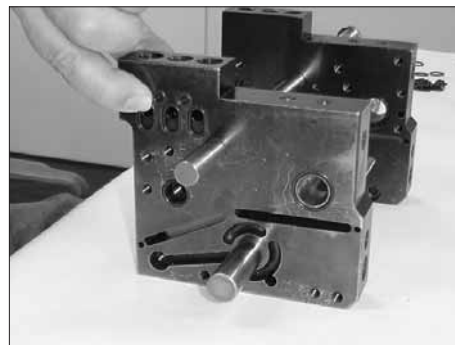

Figure 7-59 Location of end slice O-rings
2. See Figure 7-59. Install new end slice O-rings.